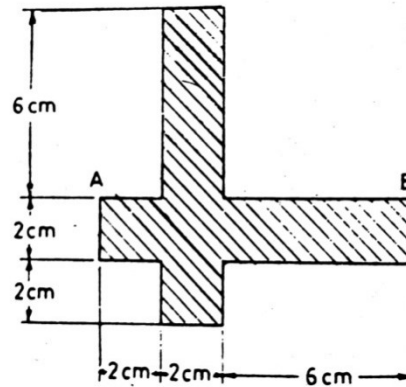

Figure 3.13
13. Determine the moment of inertia of the shaded area with respect to the centroidal axis parallel and perpendicular to the side AB as shown in Figure 3.13